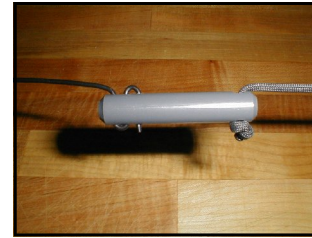

Fig. 1
7. Once you are satisfied with the overall length of the radiator, lace the end of the wire through the end insulator as shown in Fig. 1.